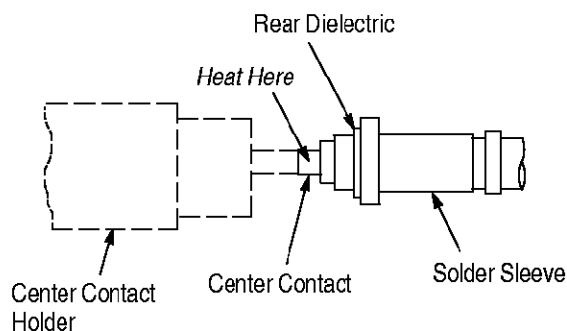

Figure 5
3.3. Soldering of Center Contact to Cable Inner Conductor (Figure 5)